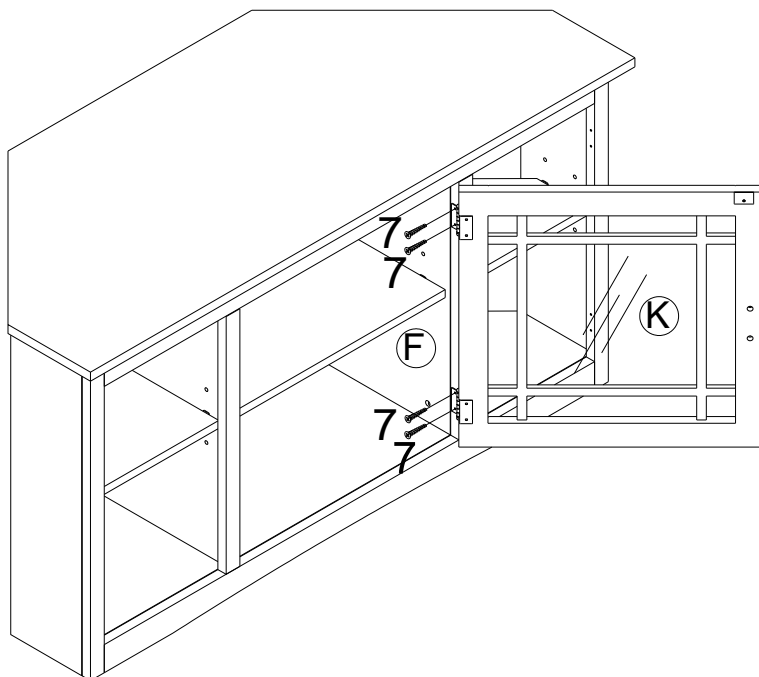

Figure 12
Attach Middle Door (K) with the hinges to the Divider Panels (F) using Screws (7) as shown in Figure 12.